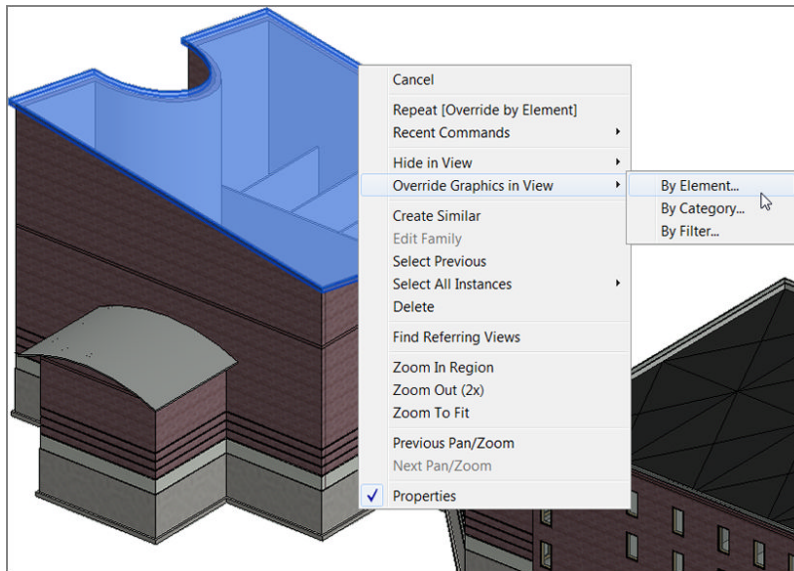

FIGURE 9.9: Selecting the roof and right-clicking
2. Select the sloped roof that covers the west wing, as shown in Figure 9.9.
4. Select **Override Graphics In View > By Element** (see Figure 9.9).